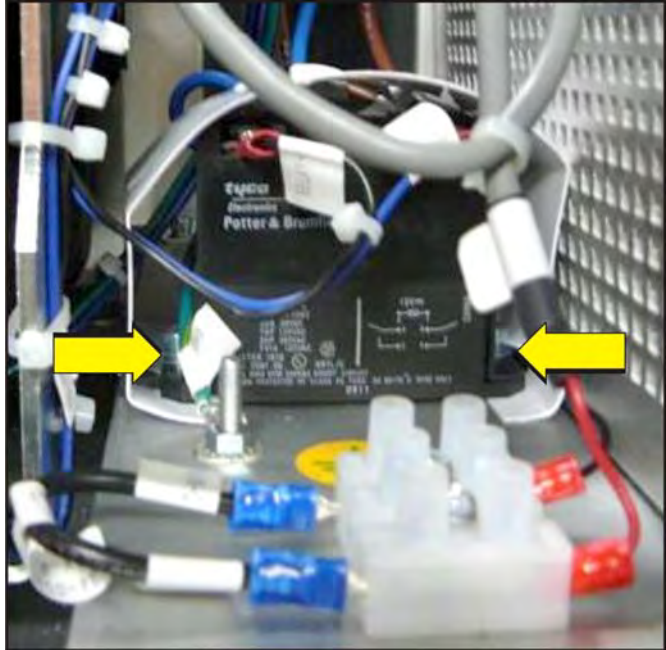

Figure 5-46 Remove AC Relay
5. Using a 3mm hex key, remove the screw closest to the blower and loosen the screw closest to the igniter shield. **(Figure 5-46)**